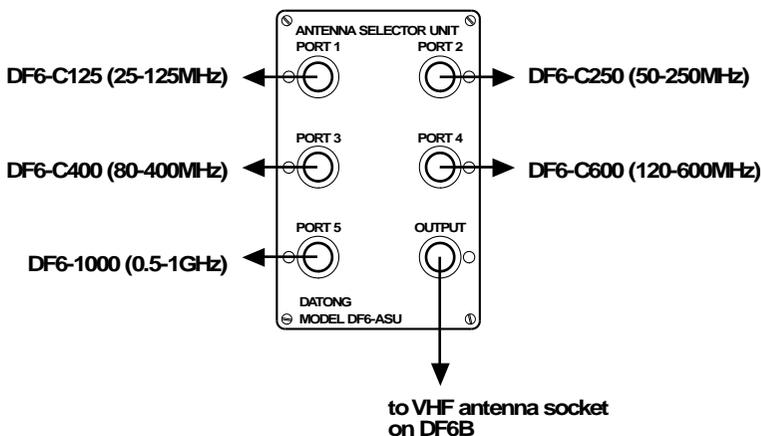

Figure D.1 Antenna Selector Unit (ASU)
D.1 Function (Figure D.1)
Figure D.1 also indicates the head units intended to be connected to the PORT connectors, together with their frequency ranges. The PORT numbers correspond to the Datong array type numbers, (see **Appendix C**).